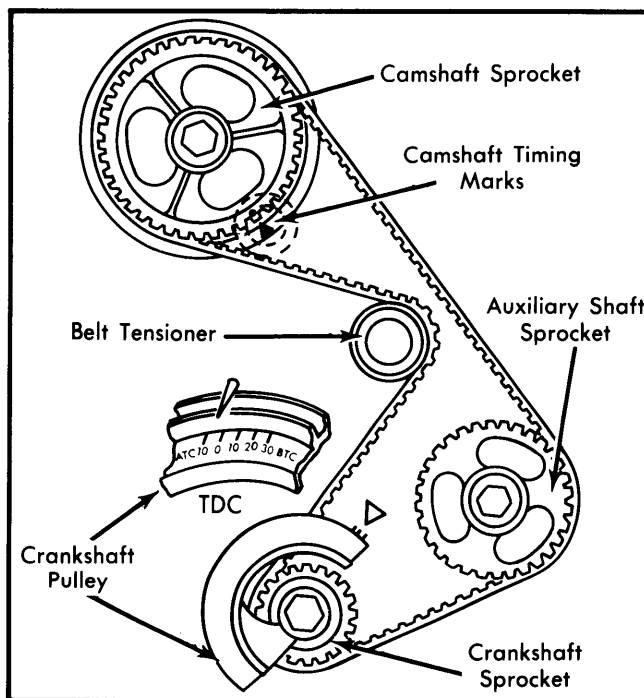

Fig. 7 Camshaft Belt Sprocket Alignment
Checking Timing — 1) Remove access plug from timing belt cover and position crankshaft at TDC by aligning pointer on cover with "O" mark on crankshaft damper. See Fig. 7.
2) Position crankshaft sprocket and camshaft sprocket as shown in Fig. 7. Remove distributor cap and set rotor to No. 1 firing position by turning auxiliary shaft. Install drive belt over crankshaft sprocket and then counterclockwise over auxiliary and camshaft sprockets. Align belt in middle of sprockets.